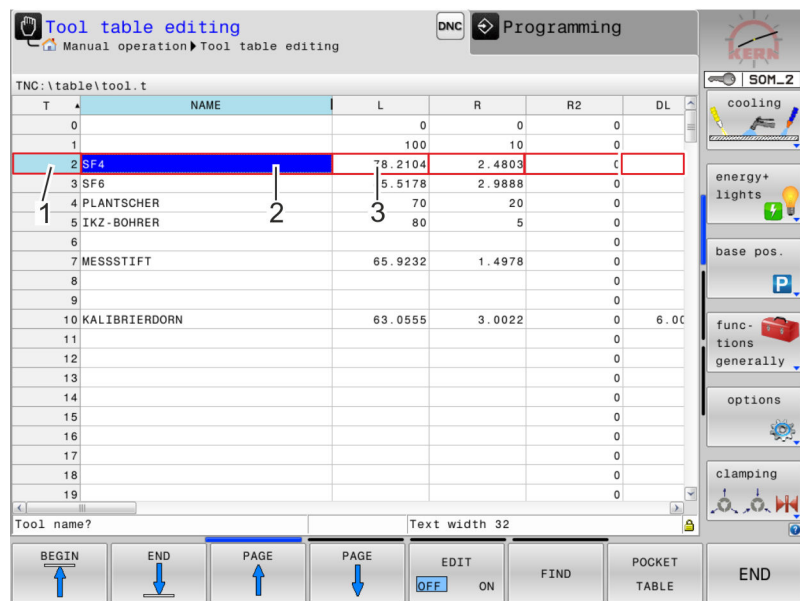

Fig. 54: Tool table
- Use the cursor keys or the [GOTO] function in the tool table (Fig. 54) to move into the line of the desired tool.